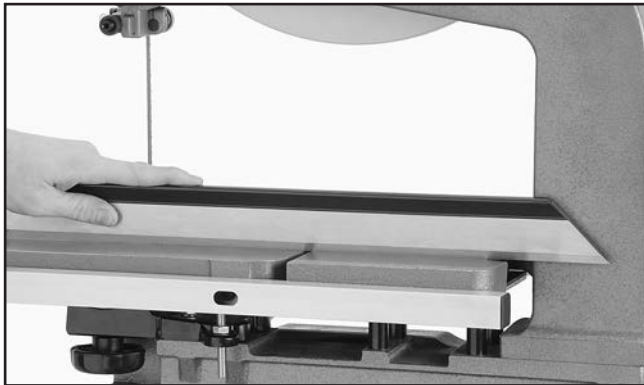

Figure 26. Leveling extension table with straightedge.
3. Place a straightedge across the front of the main table and extension table as shown in **Figure 26**.